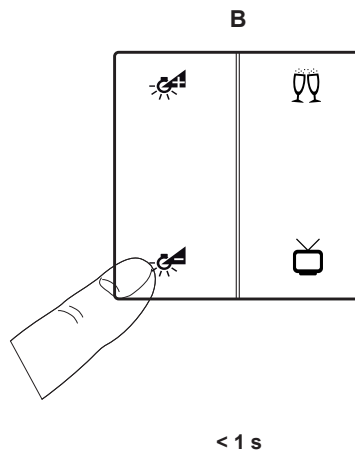

Figure 27: Setting new scene parameters
- Change lighting intensity, dim up or down (Figure 27, B)